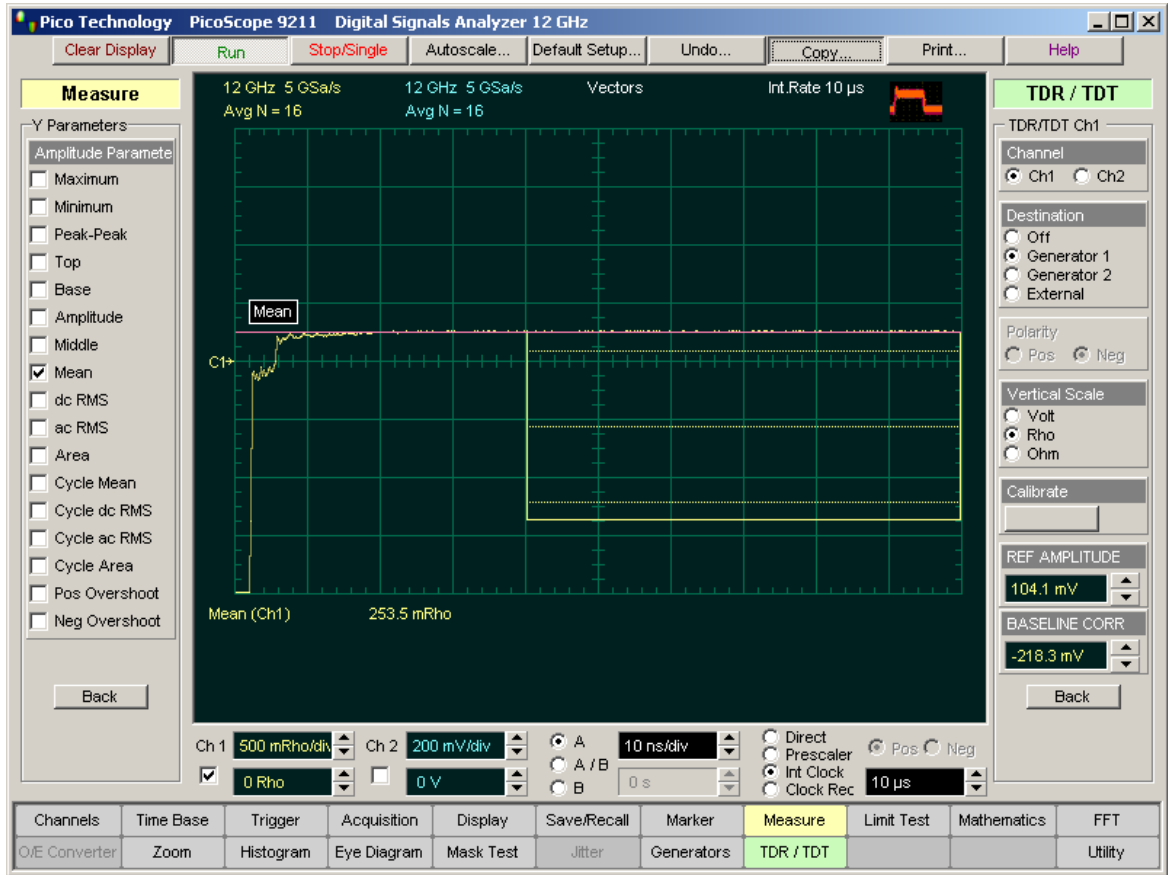

Figure 6
7. Connect a 6-dB unloaded attenuator to the Reference Plane. This attenuator should have approximately 85 ohm resistance when it is unterminated. See Figure 6.
8. Click **Rho** in the **Vertical Scale** menu. See Figure 6.
Fig. 6 shows mean value of 253.5 mrho.